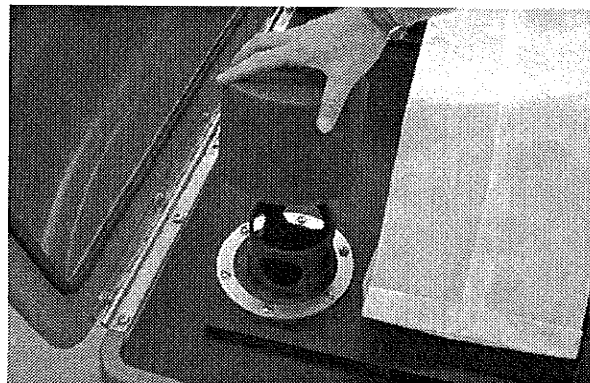

FIG. 10
3. Be certain that secondary filter is installed on vacuum inlet duct (Figure 10).